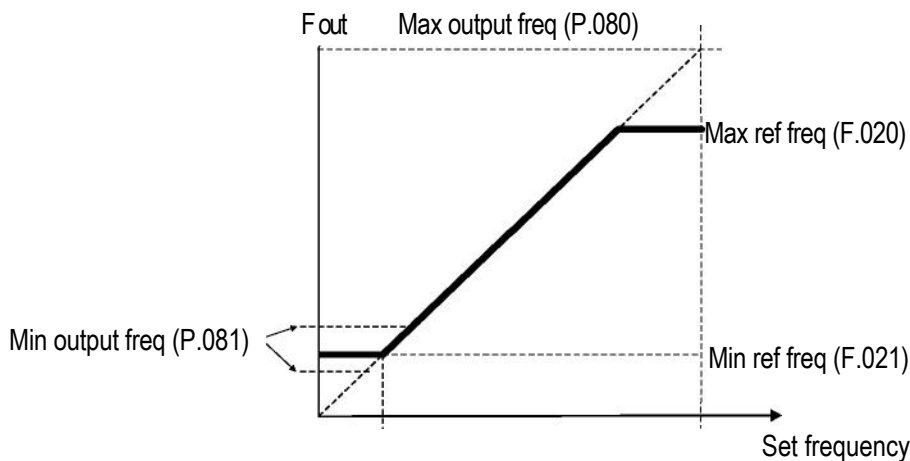

Figure 7.6. 7: Min a Max Reference Frequency
P.064 parameter represents the return point of the output voltage, on the linear characteristic of V/f ratio (see figure 7.6. 4).